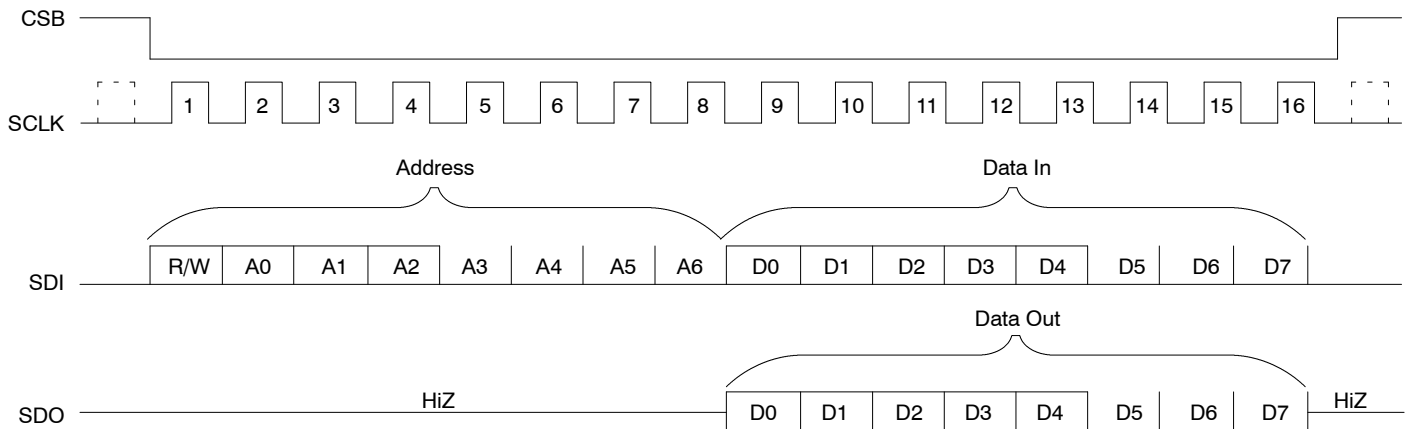

Figure 4. Serial Processor Interface Data Structure
The following instructions, for using the serial interface, are best understood by referring to the diagram in *Figure 4*.
Once the last address bit (A2) has been clocked into the SDI input, the read operation will proceed through an idle period, lasting four SCLK periods. On the falling edge of SCLK Cycle “8” (See *Figure 4*) the serial output signal (SDO) becomes active. At this point the user can begin reading the data contents of the addressed command register (at Address A2, A1, A0) via the SDO pin. The SDO pin will output this five bit data word (D0 through D4) in ascending order, with the LSB first, on the rising edges of the SCLK pin.
Once the last address bit (A2) has been clocked into the SDI input, the write operation will proceed through an idle period, lasting four SCLK periods. Prior to the rising edge of SCLK Cycle #9 (See *Figure 4*) the user must begin to apply the eight-bit data word, that he/she wishes to write to the serial input interface onto the SDI input pin. The microprocessor serial interface will catch the value on the SDI pin on the rising edge of the SCLK. The user must apply this word (D0 through D7), serially, in ascending order with the LSB first.
2. Each Read or Write operation, with the Serial Interface, will require 16 SCLK periods, as depicted in *Figure 4*.